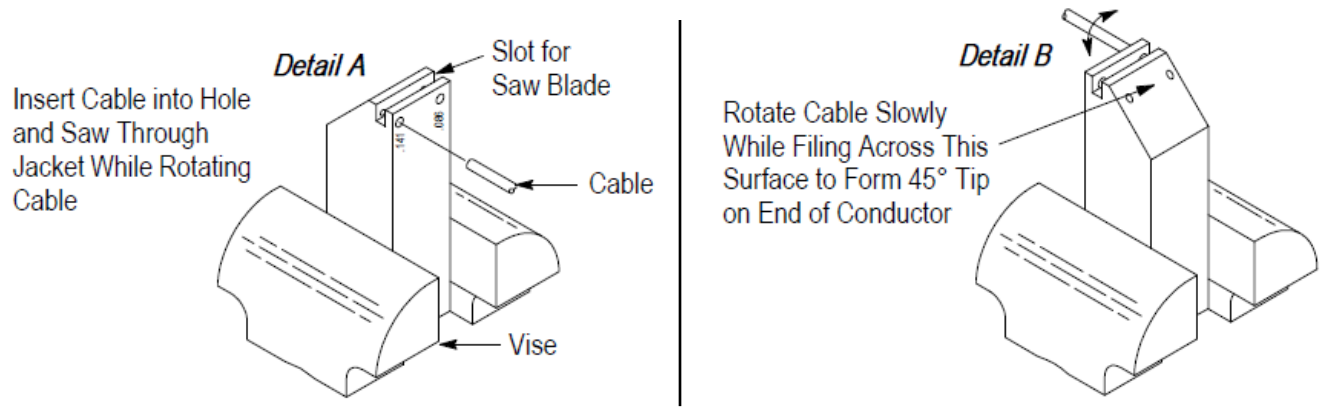

Figure 5
2. Insert the cable into the hole corresponding to the cable size as shown in Figure 5, Detail A.
4. Re-insert the cable into the cable dressing fixture for pointing (refer to Figure 5, Detail B). Keep pressure against the fixture and rotate the cable slowly while filing on the 45 degree surface with a small pillar or mill file. Continue filing until the conductor offers no resistance to the file.